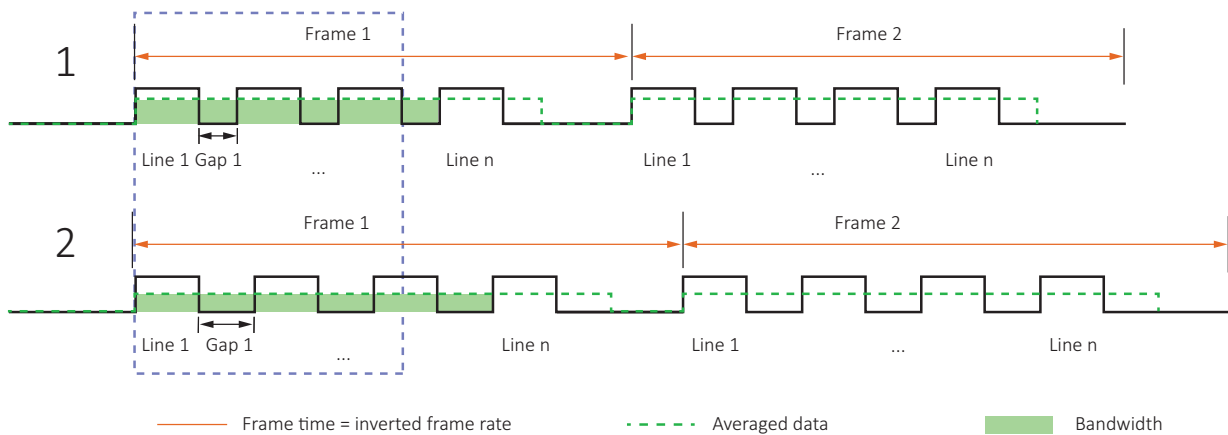

Figure 119: Sensor data output and camera data output
Figure 119 shows the bandwidth for a higher (1) and a lower (2) value for `DeviceLinkThroughputLimit`.